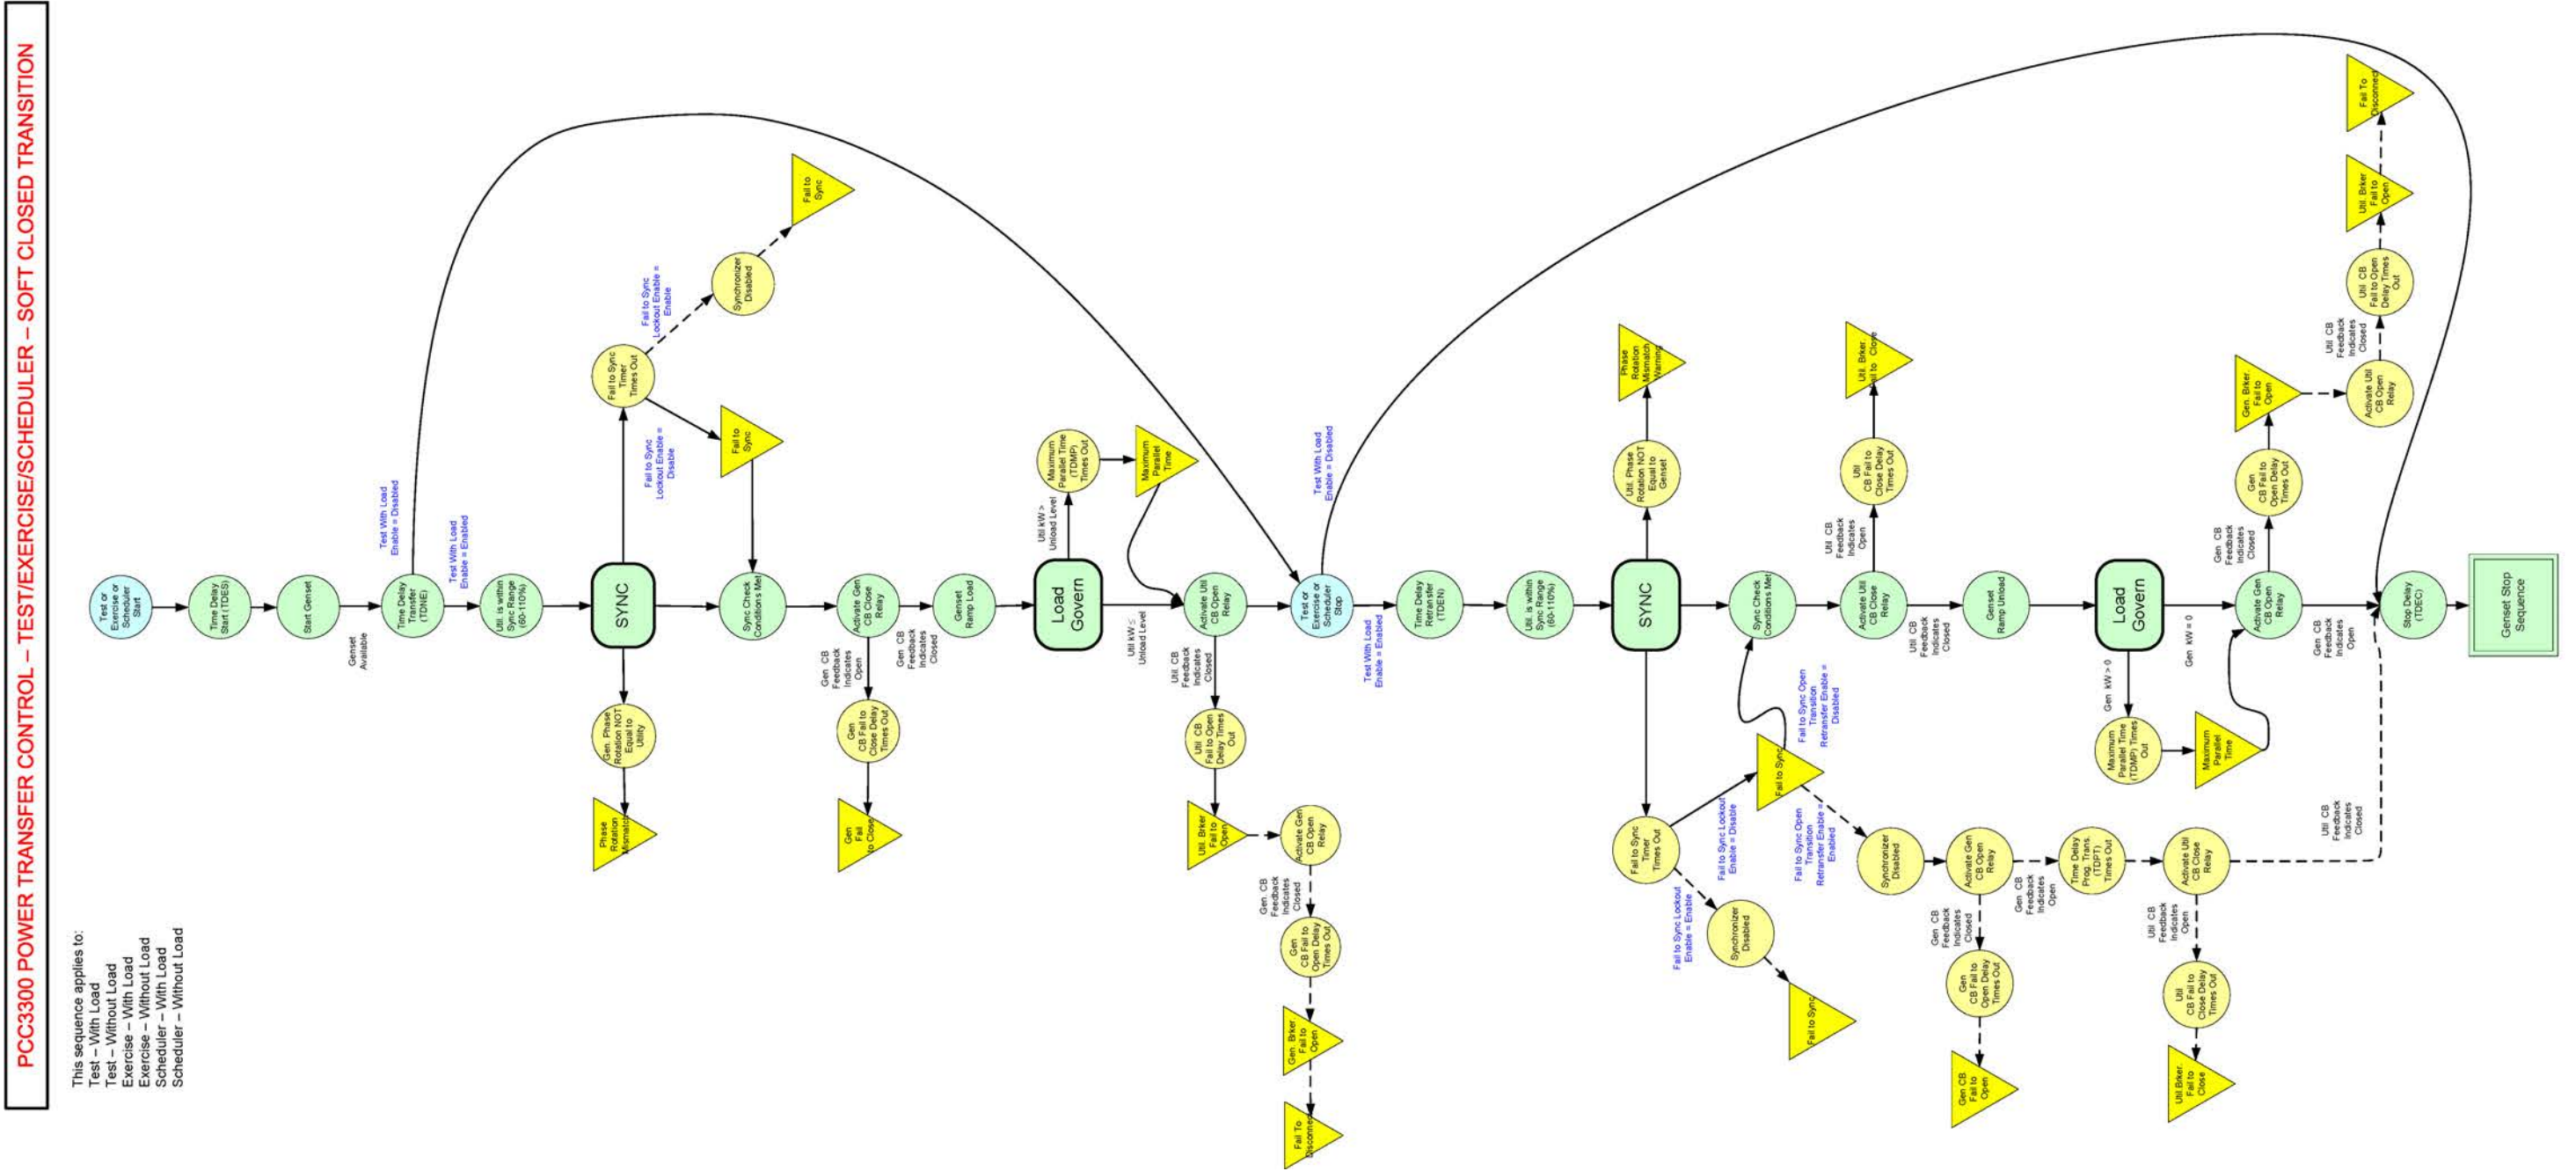

FIGURE 152. POWER TRANSFER CONTROL: TEST/EXERCISE/SCHEDULER, SOFT CLOSED TRANSITION
- Figure 152. Power Transfer Control: Test/Exercise/Scheduler, Soft Closed Transition 684